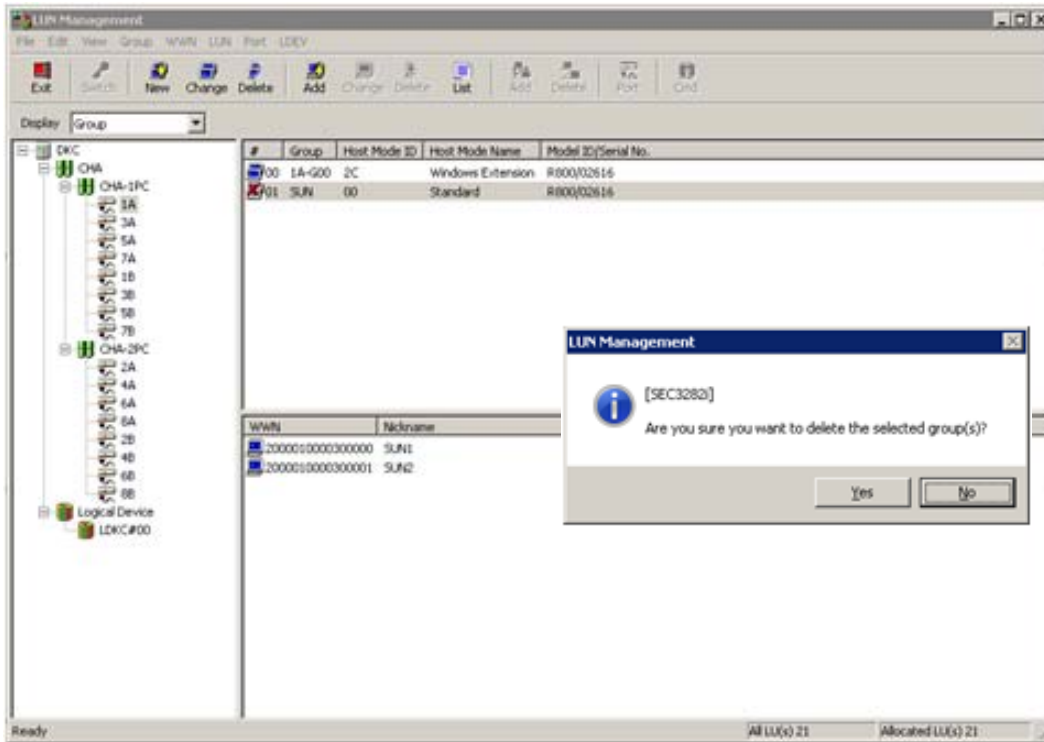

Figure 5.3.1.4-3-12 Main Window
- ① Select (CL) a group you want to delete from the upper right list.
- ② Select (DR) [Delete] from the [Group] menu in the Main window (Figure 5.3.1.4-3-12).
- ③ Since a message asking for a confirmation is displayed, select (CL) the [Yes] button.
- ④ Information on the group that has been selected from the upper right list is deleted. Moreover, the details of the group information (WWN/LUN) is also deleted.